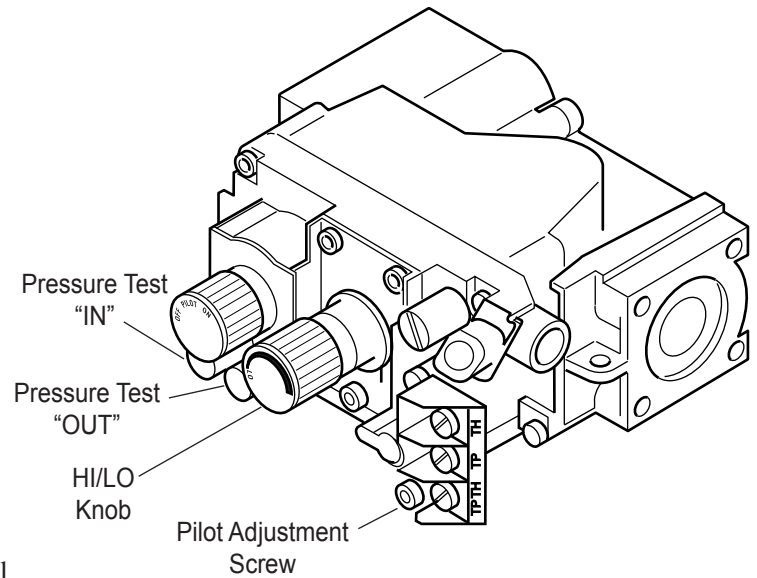

Figure 34 - Gas Pressure Check at Gas Valve
6. To check gas pressures at valve, turn captured screw counter clockwise 2 or 3 turns and then place tubing to pressure gauge over test point. Turn unit to high. *See Figure 34.* After taking pressure reading, be sure and turn captured screw clockwise firmly to reseal. Do not over torque. Check test points for gas leaks.